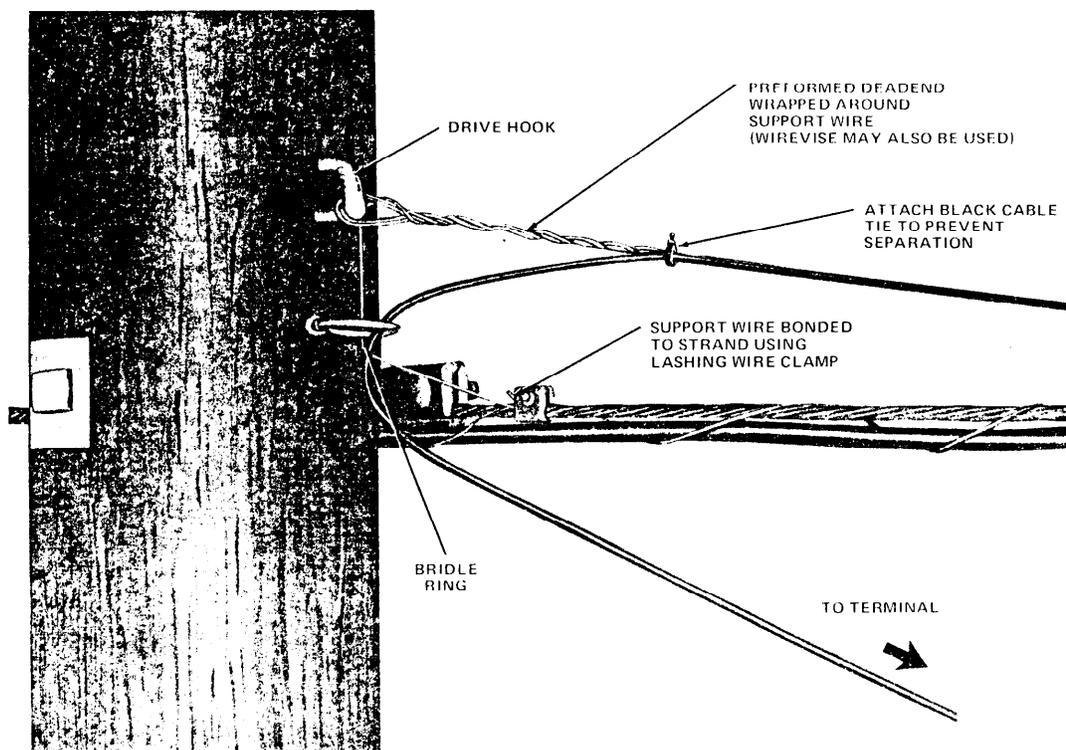

Fig. 11 - Completed Pole Attachment
- (3) Cut the wire to the required length making an allowance for a 6-inch drip loop.
- (4) Cut the web and separate the support wire from the jacket to approximately 8 inches from the pole attachment.
- (5) Place a black plastic cable tie around the jacket and support wire at the point of separation to prevent further splitting of the web.
- (6) Cut the support wire at the required length allowing sufficient length for bonding to the cable strand.
- (7) Crush and strip the PVC jacket from the support wire back to the cable tie(s).
- (8) Install a DE-2506 dead end or a No. 5056B wirewise on the bare support wire and attach to pole attachment. Release and remove drop wire puller.
- (9) Complete the pole attachment as shown in Fig. 11, 12, and 13.